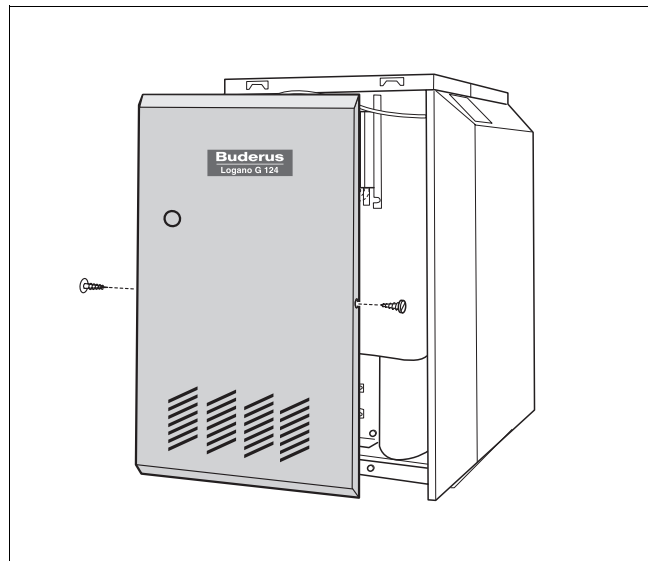

Fig. 4 Removing front panel of boiler (G124X II)
8. Attach front panel of boiler (→ Fig. 4).